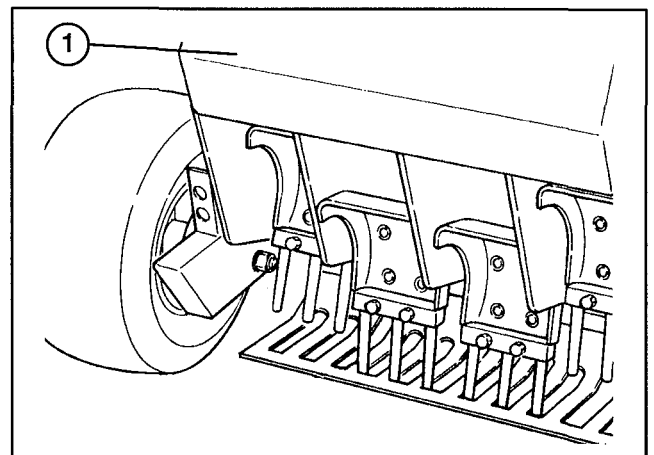

Figure 39
A. Unlatch and remove coring head cover (Fig. 39).